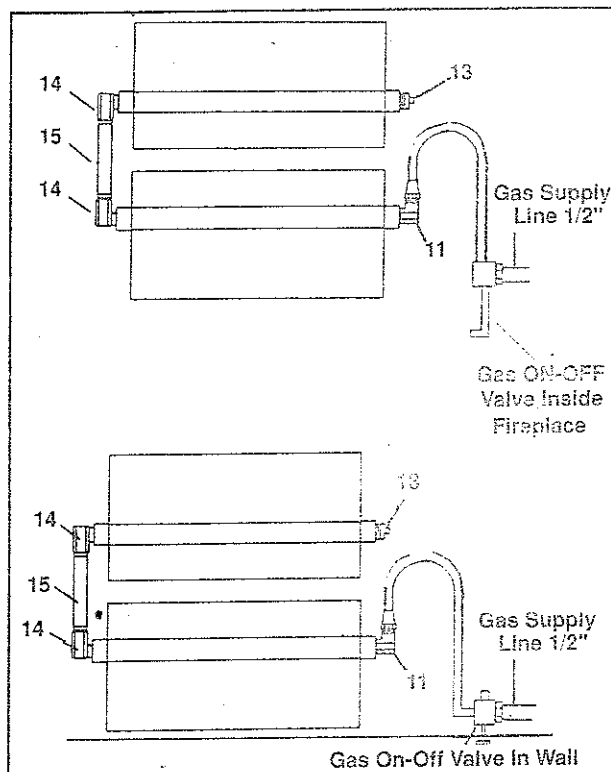

Figure 4. Gas line installation-Masonry fireplace.
F. **Masonry fireplaces.** A 1/2 inch gas supply line must be provided to the firebox. Most installations require drilling an access hole through the masonry wall. The supply line should be secured and sealed by mortar within the access hole. The supply line should also have an on-off valve either in the wall or inside the fireplace. (See Figure 4.)
- Place the two burner pans (Part #8) back to back and attach the two street elbows (Part #14) to the same side on each burner pan using pipe dope. (See Figure 1 and Figure 4.)
- Determine if the fireplace has a right or left-hand gas line feed. Place the side of the burner system with the elbow and pipe nipple assembly away from the gas supply line. Attach the 3/8" Flared Orifice Elbow (Part #11) to the end of the burner system which is closest to your fireplace valve (shown in Figure 4). This fitting is specially made for Natural Gas Installations ONLY. Do not use for L.P. or Propane gas applications.
- Attach the burner plug (Part #13) to the opposite burner as shown in Figure 4.